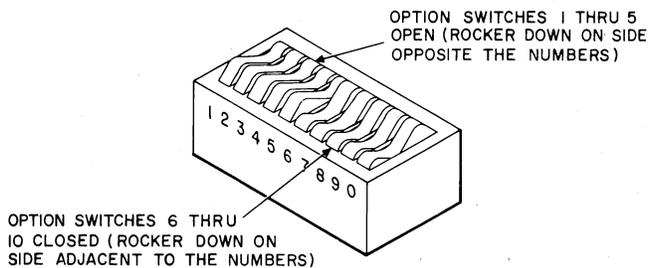
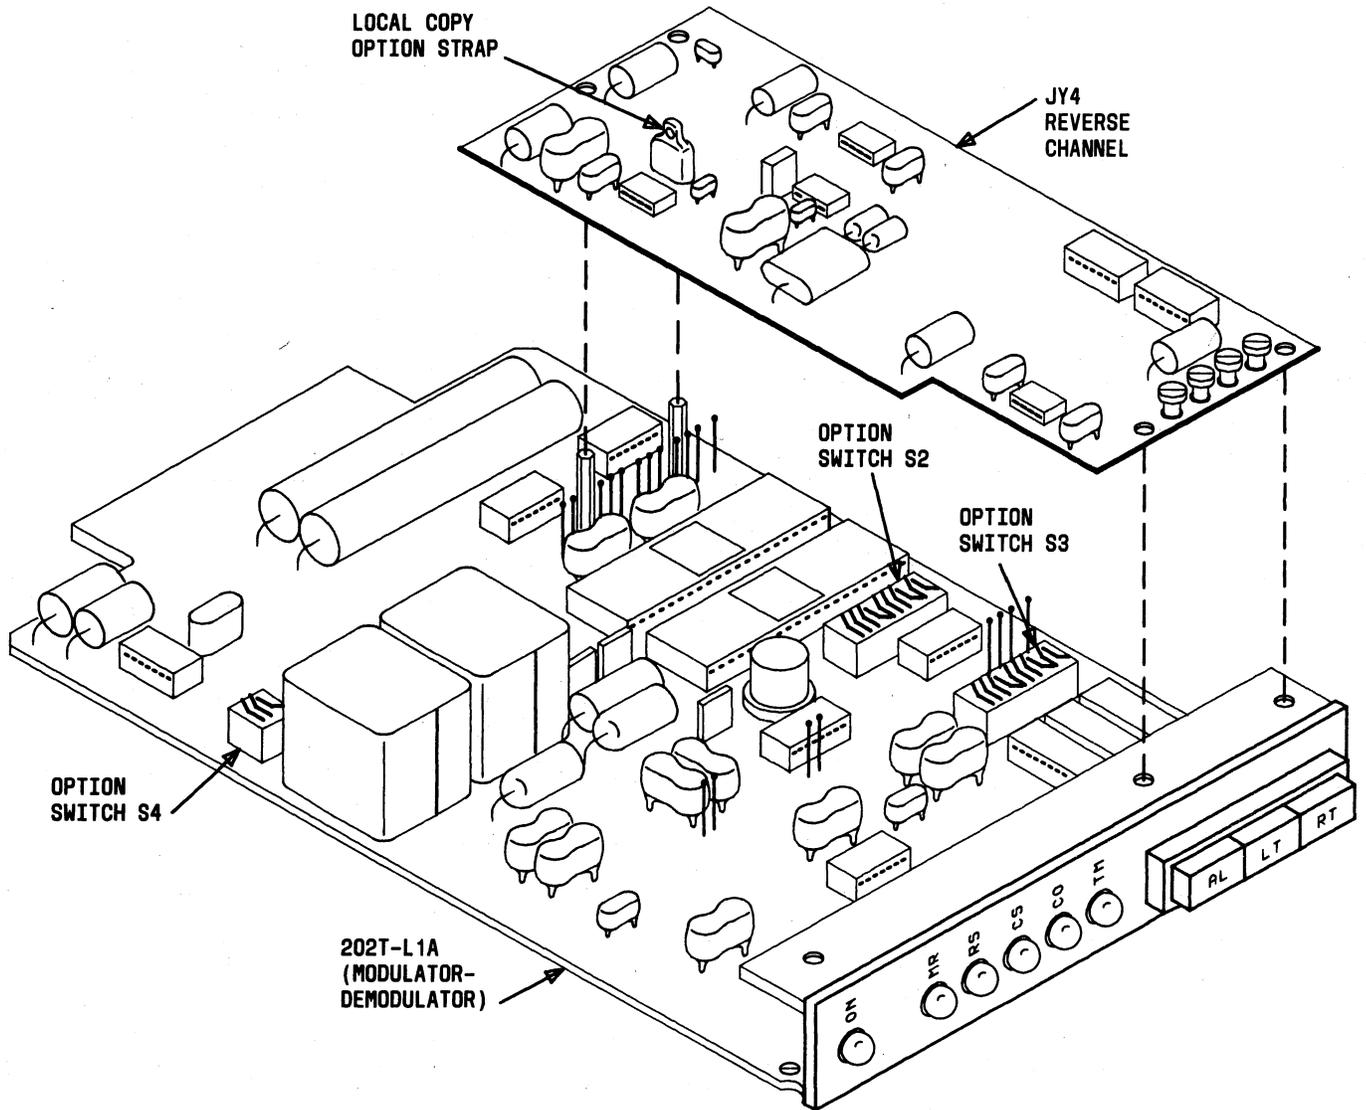

Fig. 1—Option Switch
Fig. 2—Location of Option Switches
2.02 Options are installed and removed by means of switches (Fig. 1) and straps (DS 202T-L1 only) on the data set printed wiring board (Fig. 2), by a strap on the reverse channel circuit pack (when provided), and by a screw switch on the backplane (frame ground to signal ground option). Refer to Table A or B for the switch settings and strap positions for the various options. Refer to Table C for the recommended options for a DS 202T-type used on 2-wire private line or 4-wire private line with talk-back. Refer to Table D for the recommended options for a DS 202T-type used on 4-wire point-to-point and multipoint systems without talk-back.